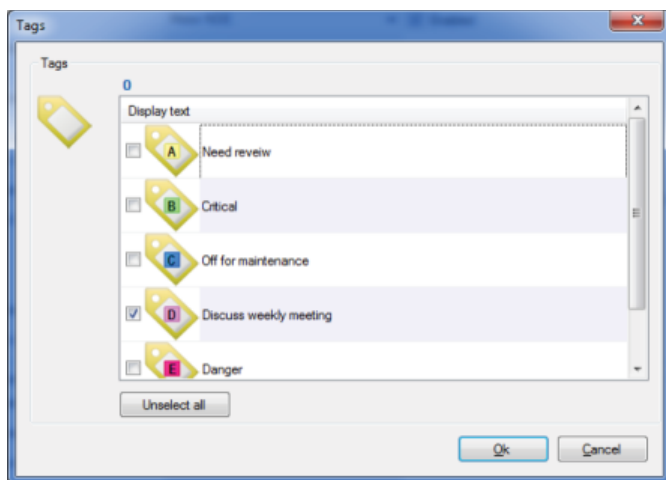

Fig. 6. Select your tag from the tag library.
- 5 Then select a tag(s) from the library and press **OK** (→ fig. 6)